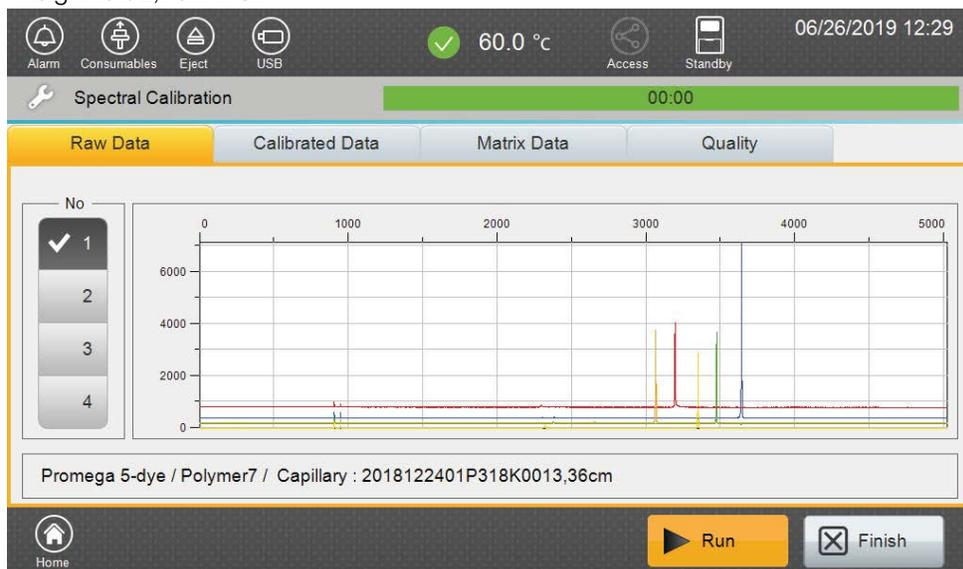

Figure 10. Spectral Calibration 'Raw Data Tab' screen.
1. Following the run, the 'Raw Data' tab (Figure 10) will be displayed. The minimum peak height for spectral calibration is 500 relative fluorescent units (RFU) and the maximum peak height is 32,767RFU.